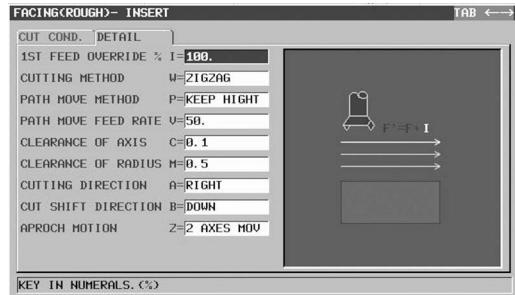

Figure 7-50 FACING (ROUGH) DETAIL Dialog (MC)
- Complete the DETAIL tab of the dialog, as shown in Figure 7-50, and press the INSERT soft key.